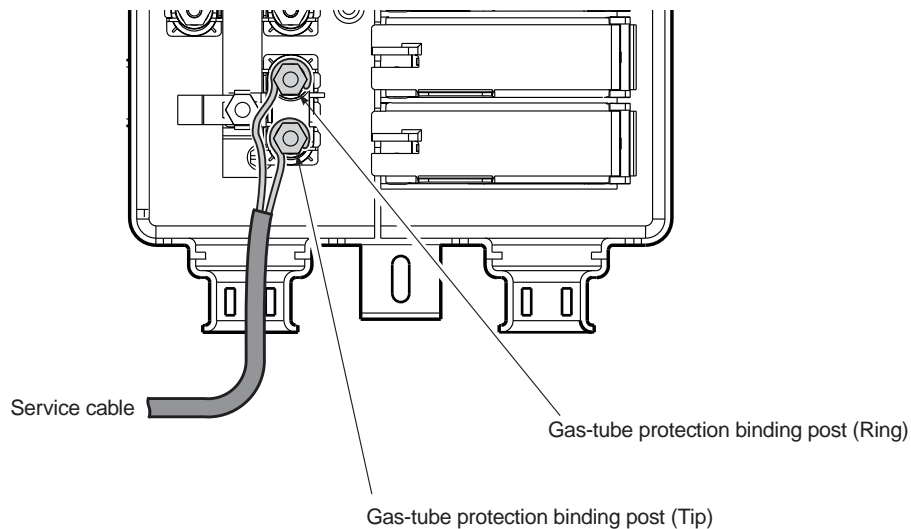

Figure 7. Attaching the HDSL Tip and Ring Wires
- 2 Loosen the top nuts on the Tip and Ring gas-tube protection binding posts (see Figure 7).